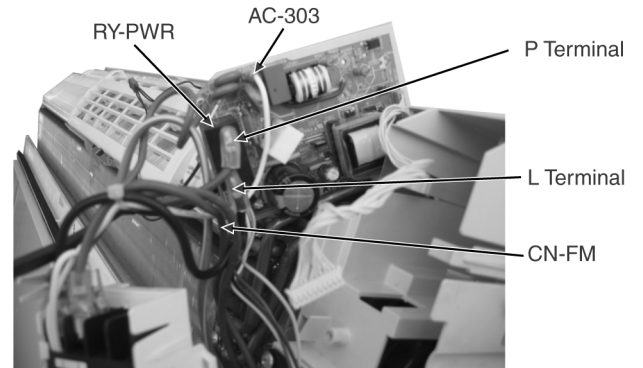

Fig. 7
- Release the AC-303 connector. (Fig. 7)
- Release the CN-FM connector. (Fig. 7)